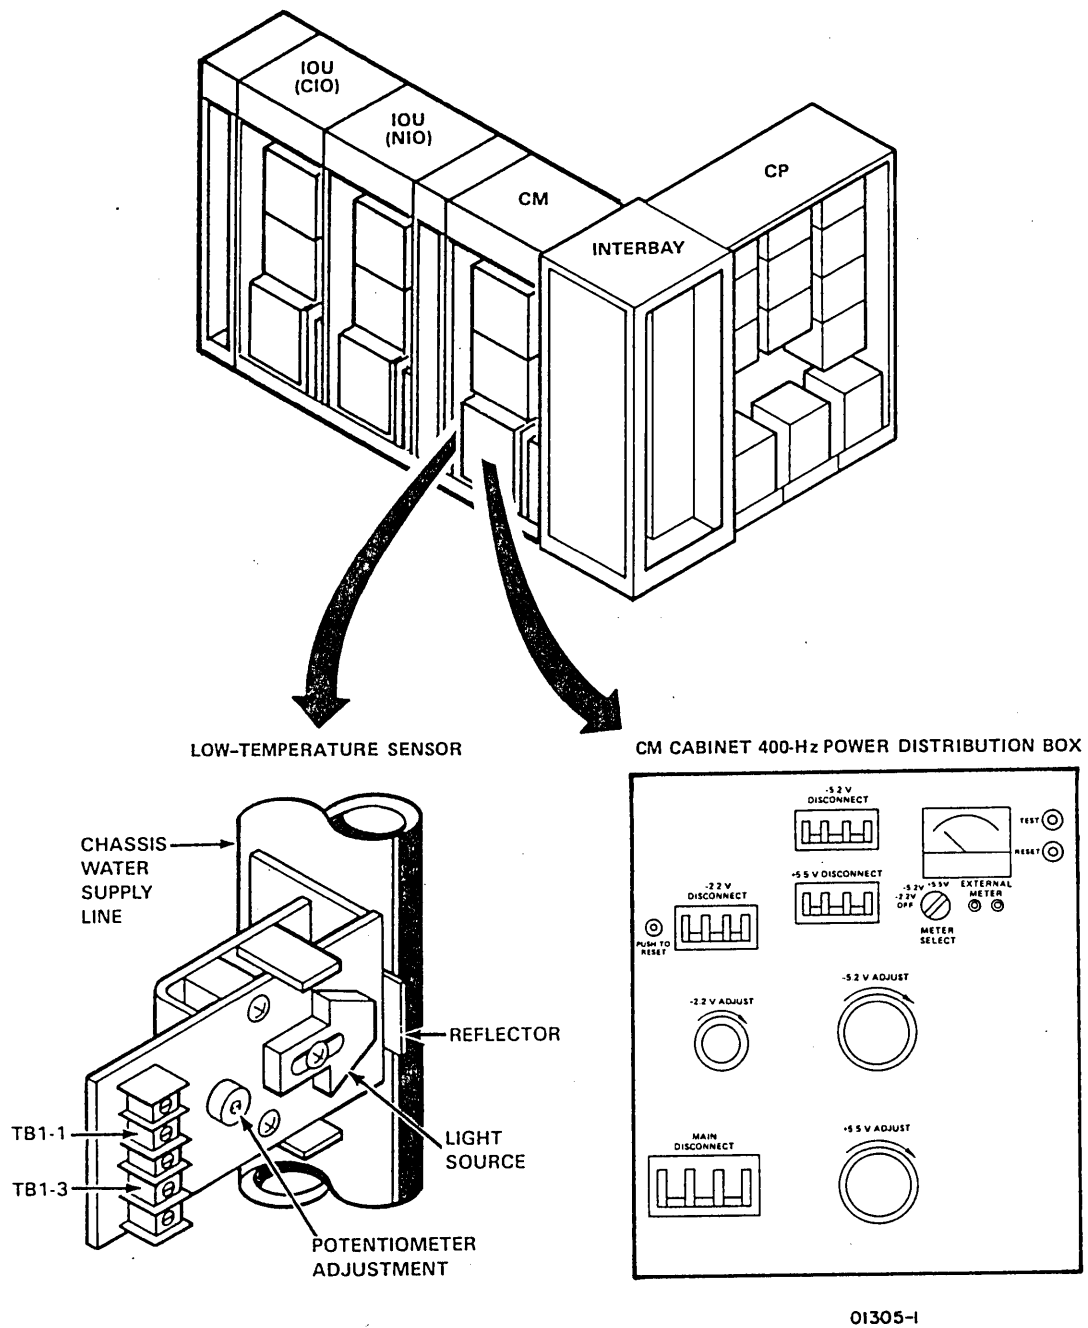

Figure 3-53. CM Power Controls and Adjustments
- ___ 7. Zero percentage meter on power distribution box (figure 3-53) as follows: